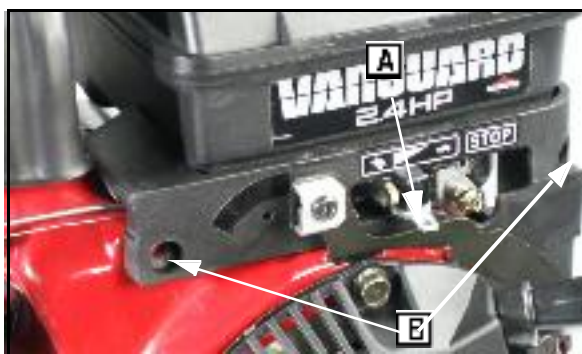

Fig. 2
5. Remove Phillips screws ([B] Fig. 2) and trim plate.